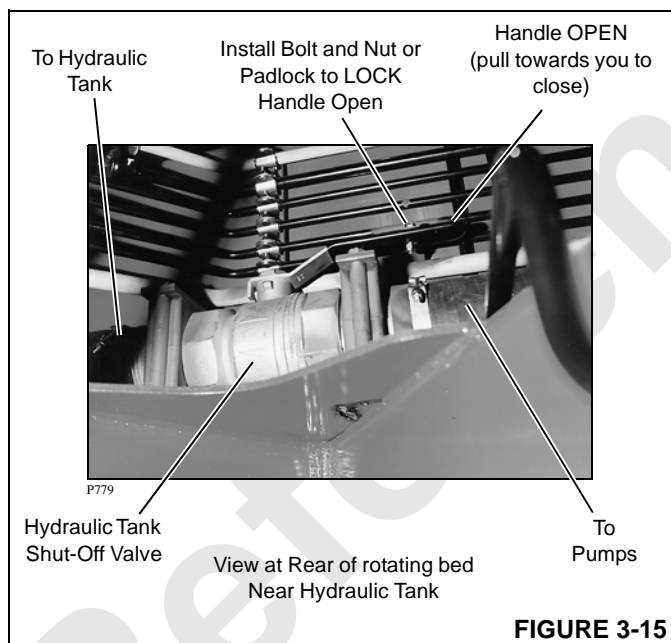

FIGURE 3-15
2. Open hydraulic shut-off valve (Figure 3-15).